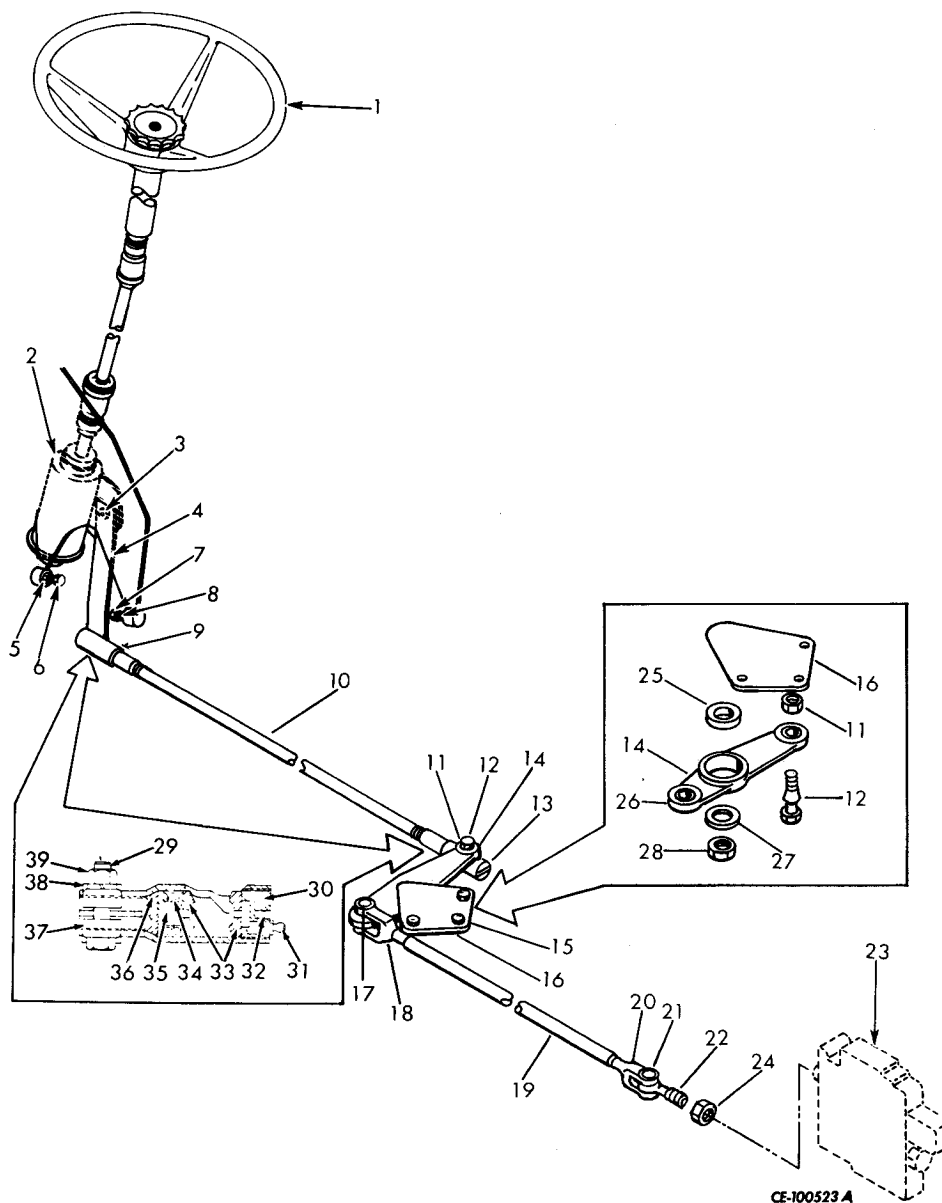

Figure 9-12
If ball stud (12, Fig. 9-12) was removed, insert it in lever (14) and install and tighten nut (11). Refer to "Special Torques" for nut (11). If bearings (25 and 26) have been removed, press new ones into lever. Position lever on pivot (16) and tighten with hardware. Refer to "Special Torques".